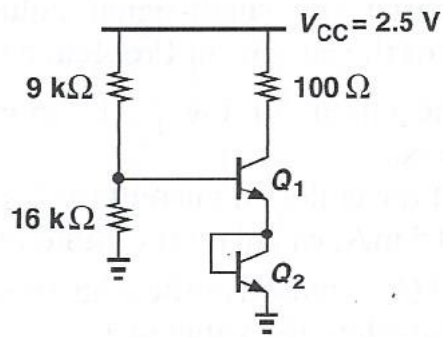

Figure 5.117
**5.18.** In the circuit depicted in Fig. 5.117,  $I_{S1} = I_{S2} = 4 \times 10^{-16}$  A,  $\beta_1 = \beta_2 = 100$ , and  $V_A = \infty$ .